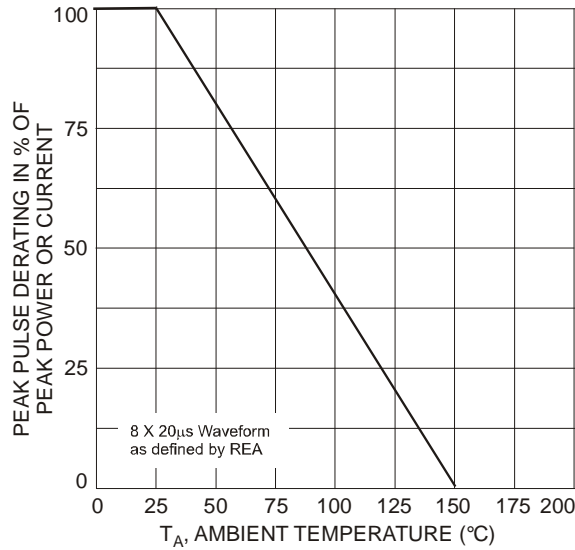
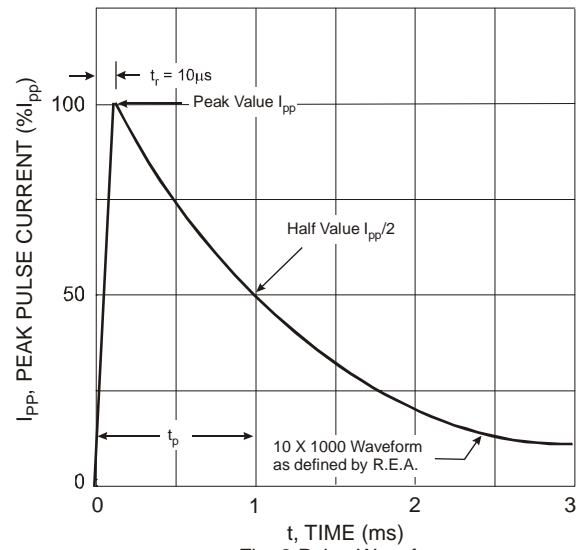
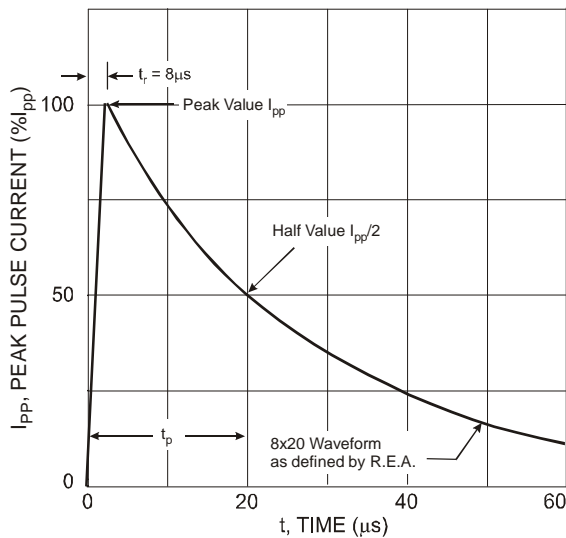

Fig. 1 Pulse Derating Curve
Fig. 2 Pulse Waveform
Fig. 3 Pulse Waveform
- Non-Repetitive current pulse as shown in figure 2 and derated above T_A = +25°C as per figure 1.
- Non-Repetitive current pulse as shown in figure 3 and derated above T_A = +25°C as per figure 1.